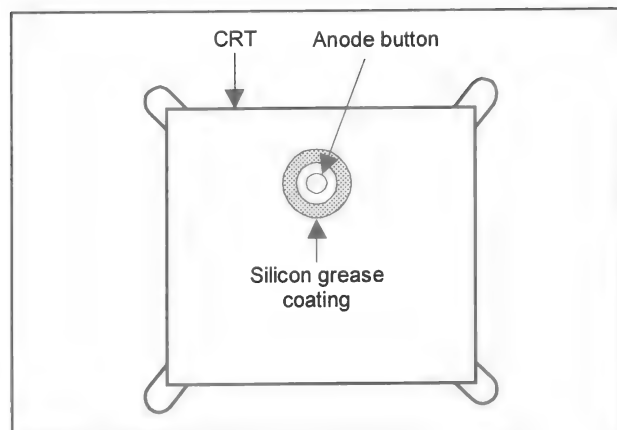
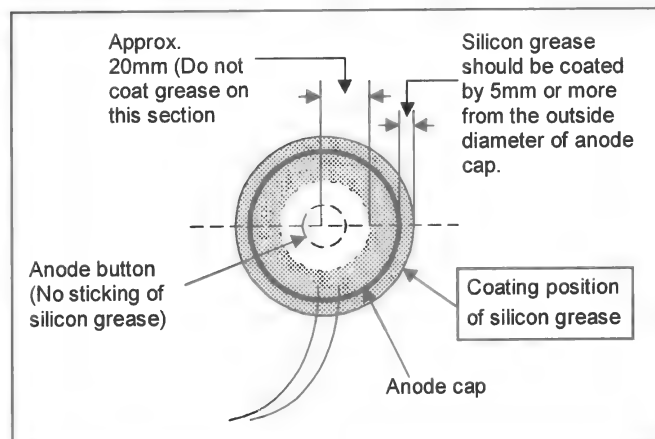

Fig. 6
Fig. 7
- Subsequent to replacement of the CRT and HV transformer or repair of the anode cap, etc. by dismantling them, be sure to coat silicon grease for electrical insulation as shown in Fig.6. Wipe around the anode button with clean and dry cloth. (Fig.6) Coat silicon grease on the section around the anode button. At this time, take care so that any silicon greases do not stick to the anode button. (Fig.7)